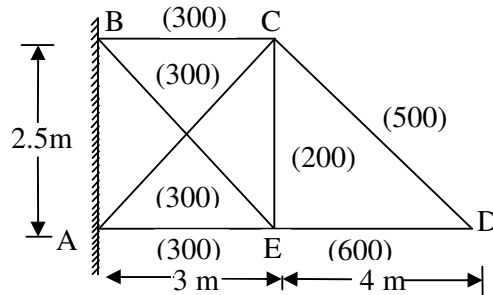

Figure 6
8. Find the forces in the members of the frame shown in Figure 6. The areas of cross-section of members in mm^2 are shown in figure. Take $E=200 \text{ kN/mm}^2$. Member AC is heated up by 20°C per unit length. Coefficient of expansion $\alpha=0.000015$ per $^\circ\text{C}$ per unit length.